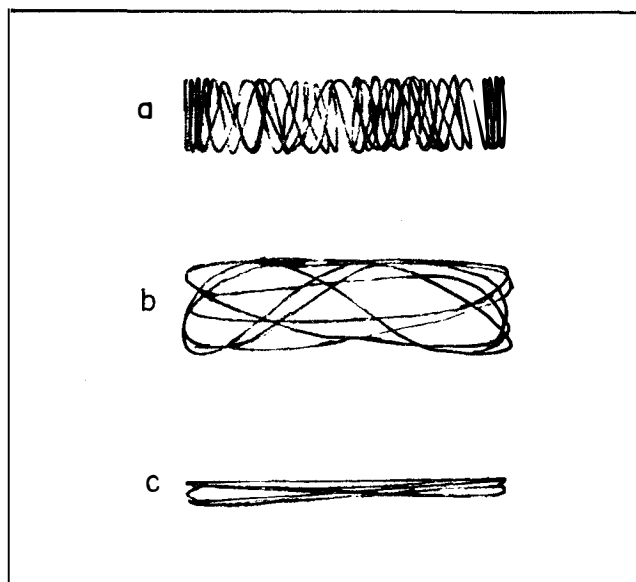

Figure 4-7. Typical Sequence Patterns
c. Using the FINE VERNIER control, reduce the difference frequency response on the oscilloscope to as close to zero beat as the stability of the measured signal will allow (refer to step f.). Absolute zero beat will be obtained when the oscilloscope trace collapses into the horizontal line. Various looped patterns will be obtained as the Frequency Comparator is tuned away from the measured frequency. Patterns such as those illustrated in figure 4-7 are sufficiently close to zero beat for most measurements, and are more practical to use than the absolute zero beat.